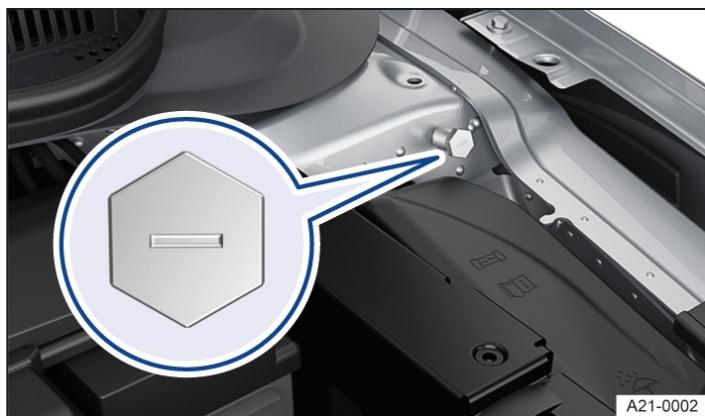

Fig. 1 In the engine compartment: jump-start connection point (earth connection).
- The jump-start connection point (earth connection) is used for connecting the *black* jump lead → Fig. 1.